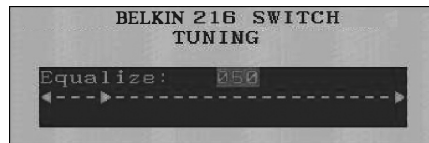

Figure 39 Image Tuning label
2. Press “F5”. The screen image of the selected computer appears together with the Image Tuning label (see Figure 39).